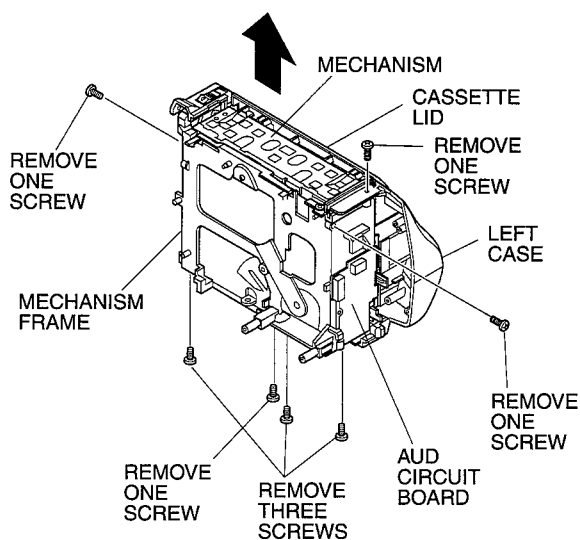

Fig.3-4
- (10) Remove 7 screws holding the left case and remove the main block in the direction of the arrow from the left case. (See Fig. 3-4)